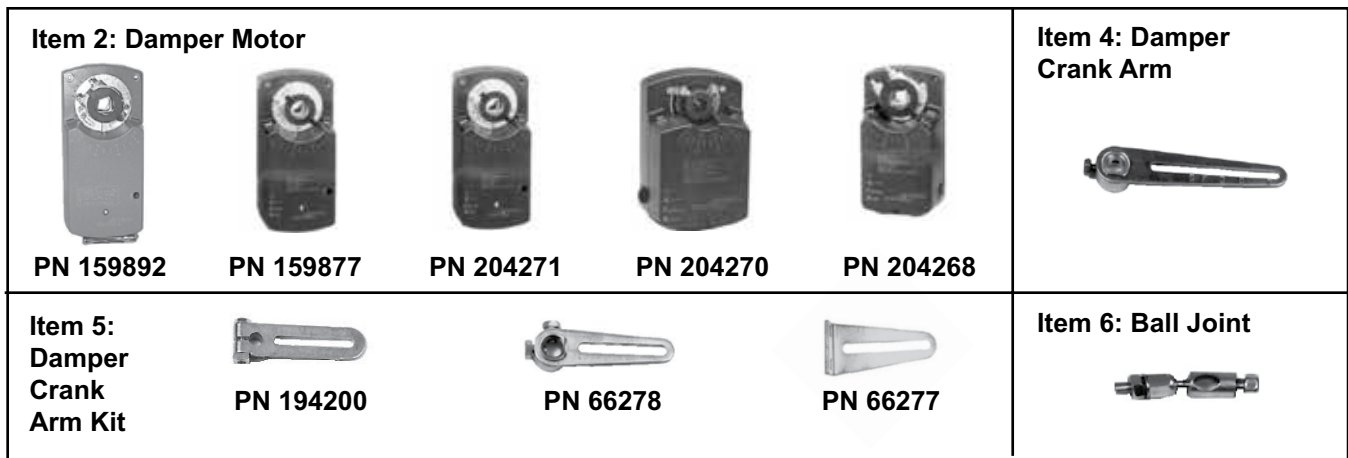

Figure 15. Damper Components—Units Manufactured *After* AUG 2003 (Refer to Table 23)
- Damper components for units manufactured *after* AUG 2003 are listed in Table 23 and shown in Figure 15.